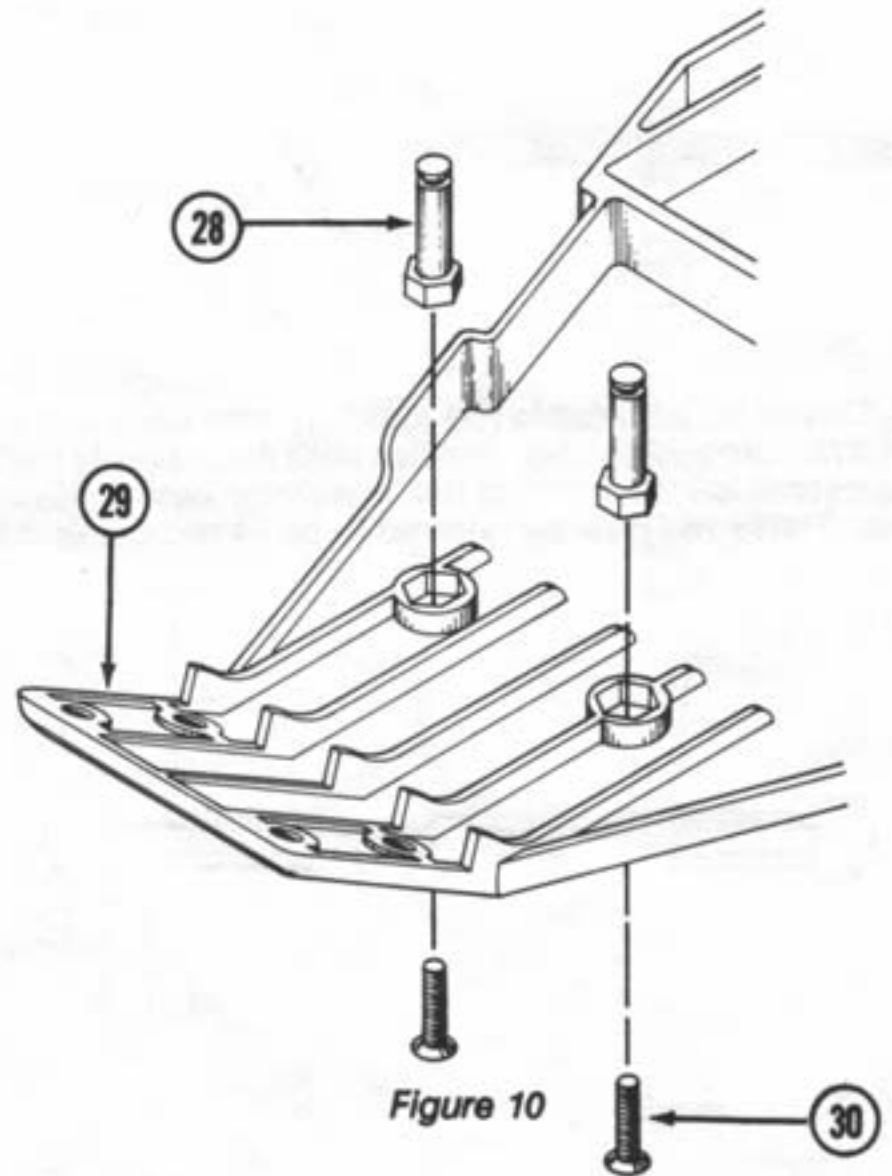

Figure 10
1. Secure steering posts (28) to chassis (29) as shown using two 4-40 x 3/8" flathead screws (30). Fig. 10